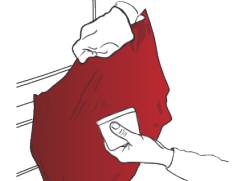

Figure 15
- If necessary, lift the film, stretch it again, completely wrap the convex surface and apply it. (FIG. 15)